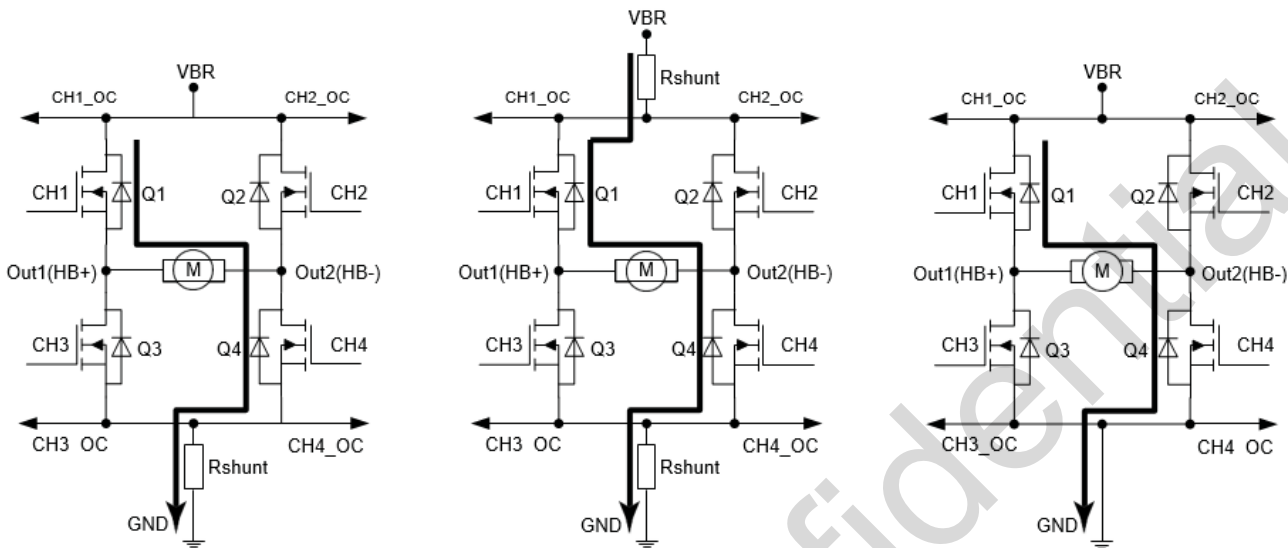

Figure 5-6 OC detection strategies for H-Bridge: (left) one shunt resistor for LS, DSM for HS; (center) two shunt resistors; (right) DSM
- OC detection through one shunt resistor mounted on the low-side between SNGPx and PGNDxx pins, as shown in Figure 5-6. DSM used for OC detection on the HS transistors.